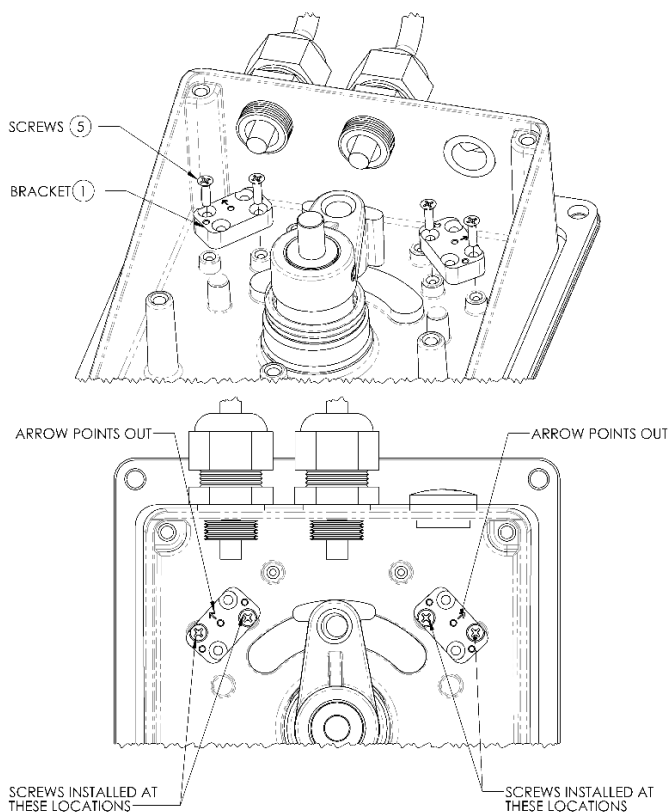

Figure 12: Installing microswitch bracket
7. Refer to Figure 12 for the next three steps.
8. Apply Loctite 243 to the flat head microswitch bracket screws ⑤.
9. Position and place the microswitch bracket ① as shown in Figure 12. The engraved arrow on the bracket should point outwards on both brackets.
10. Install the flat head bracket screws ⑤ at the locations shown in Figure 12, tighten secure.